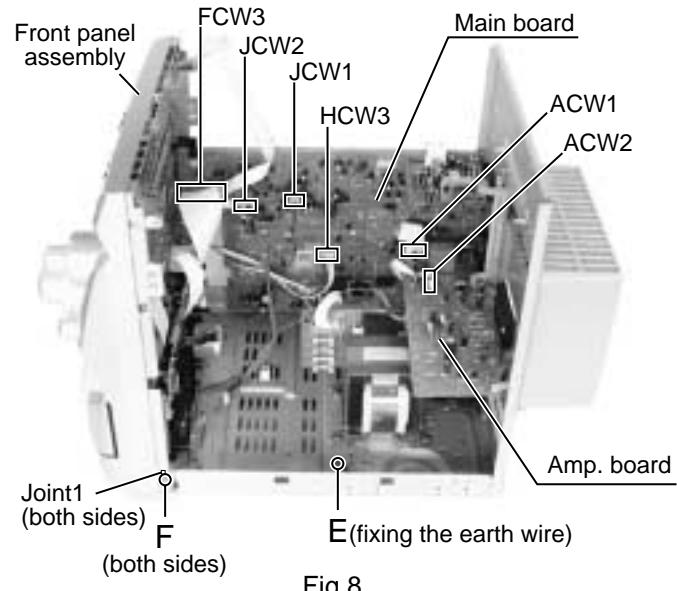

Fig.8
■Removing the front panel assembly (See Fig.8 to 10)
■ Removing the heat sink & amp. board (See Fig.8, 11 and 12)